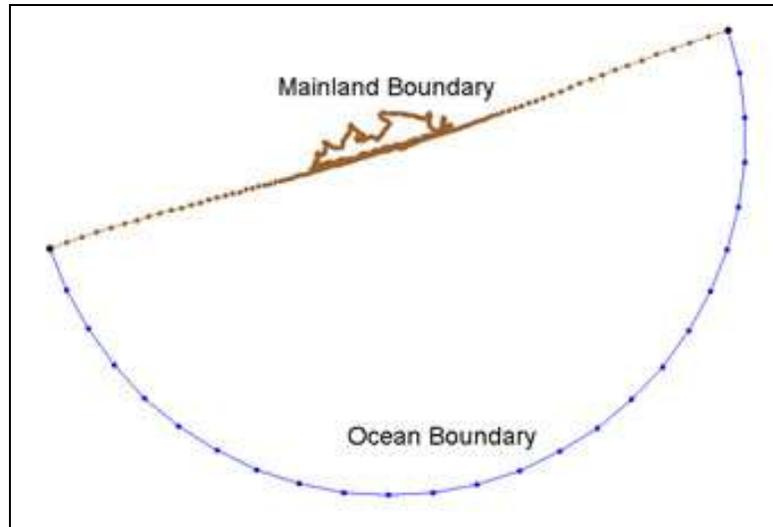

Figure 1 Feature arcs after boundary types have been assigned
2. Double-click the arc representing the ocean boundary, shown in Figure 1.